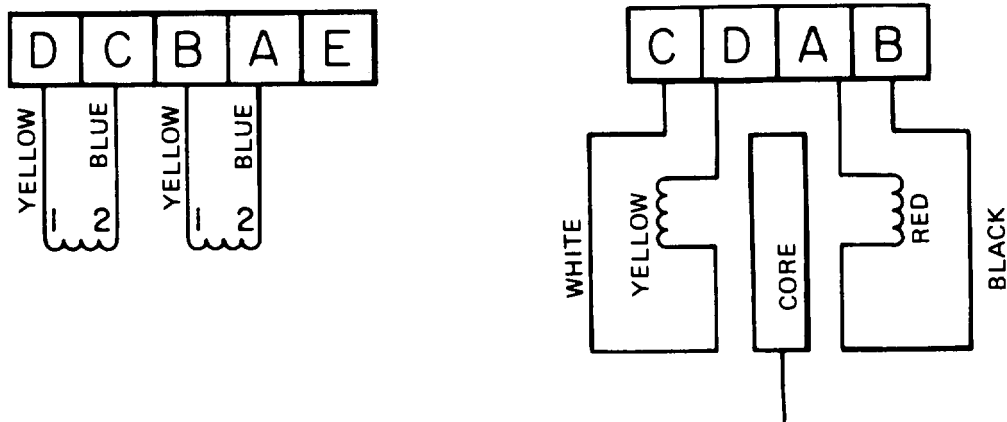

Figure 3-38. Transducer and Armature Coil Schematic Diagram
- (1) Clean all non-electrical parts in dry cleaning solvent (Federal Specification P-D-880) and dry thoroughly with filtered compressed air.
- (2) Clean all electrical parts with a clean, lint-free cloth lightly moistened with an approved solvent.
- (3) Visually inspect collars, piston, and bore in valve block for nicks, burrs, scores, and other damage.
- (4) Insert piston into valve block bore to ascertain that it moves freely.
- (5) Inspect transducer slug and bore of transducer for nicks, burrs, scratches, and other damage. Remove minor nicks and burrs from transducer slug with crocus cloth.
- (6) Inspect transducer for burns, discoloration, and other indications of electrical malfunction. Check continuity of transducer using figure 3-38 as a guide.
- (7) Inspect electrical connectors for cracks, bent or broken pins, and other damage.
- (8) Inspect armature cores for cracks, corrosion, and burns or other indications of electrical malfunction. Check continuity of cores using figure 3-38 as a guide.
- (9) Inspect cover and valve block for cracks, corrosion, and other damage.
- (10) Check all threads for crossing, stripping, and peening. Repair minor thread damage with a thread chaser.
- (11) Inspect top and bottom orifices, spacer for nicks and burrs. Inspect three cornered valve for nicks and burrs on vertical edges that could cause binding; depth of needle hole should be at least 0.125 inch. Inspect bottom face of valve (opposite needle hole) for grooving. The valve may be polished to remove grooves. After polishing the bottom face, the overall length of the valve must be at least 0.240 inch, if not, replace the valve.
- (12) Inspect needles for burrs and any wear indications. Check for straightness by rolling large diameter end with finger slowly on a known flat surface; observe small diameter end while rolling, it must not move up and down which indicates a bent needle. A bent needle, new or used, must be replaced as the pressures at A1 and A2 ports will vary and be difficult to adjust for correct values.
- (13) Replace any damaged or defective parts.